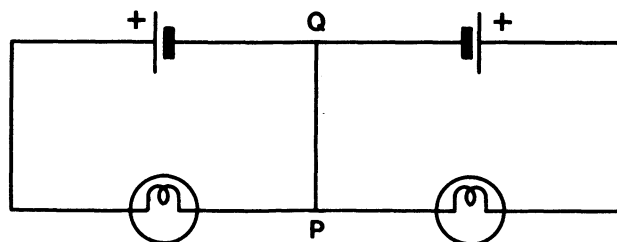

FIG. 3.21
17. Fig. 3.21 shows a circuit made up of two similar cells, each of e.m.f. 2 V and negligible internal resistance, and two lamps each rated at 2 V, 2 W. What current flows in the wire PQ?